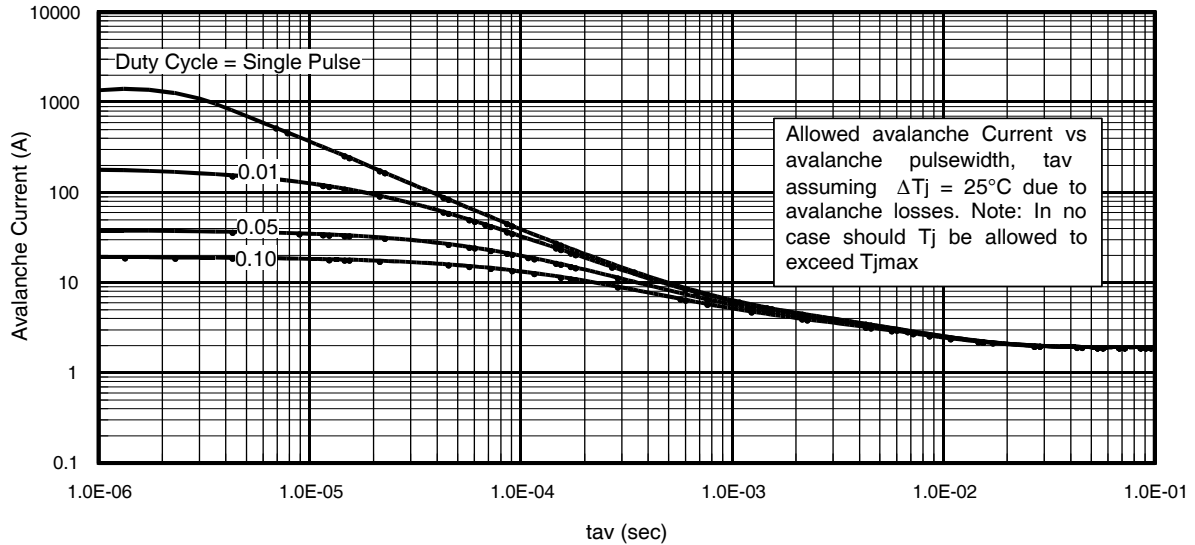

Fig 15. Typical Avalanche Current vs.Pulswidth
Notes on Repetitive Avalanche Curves , Figures 15, 16:
7. ΔT = Allowable rise in junction temperature, not to exceed T_{jmax} (assumed as 25°C in Figure 15, 16).